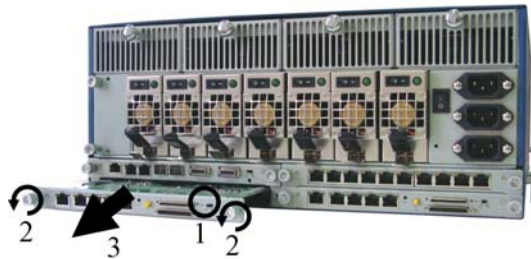

Figure 40 : Hot-Swapping Advanced Management Blade
1. Press down the power switch on the advanced management blade to turn off the power (Step 1 in Figure 40).
2. Unscrew the two locking knots (step 2 in Figure 40).
3. Pull out the management blade (step 3 in Figure 40).